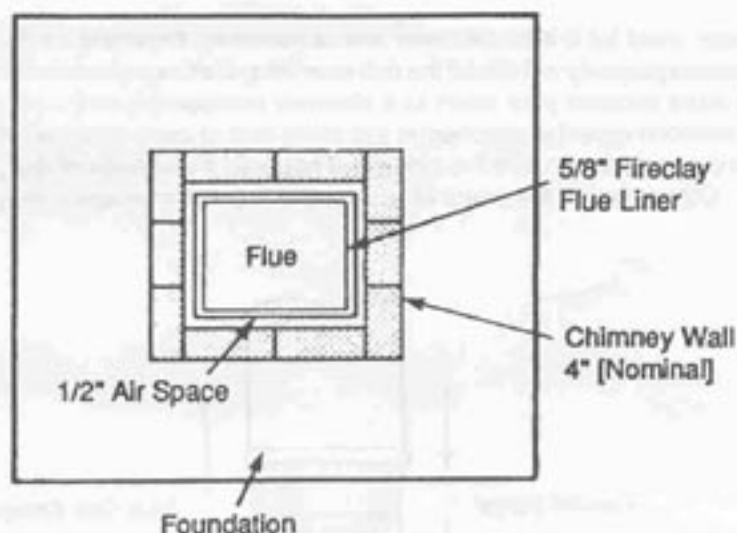

Figure 4
- The chimney must have a fire clay flue liner (or equivalent) with a minimum thickness of 5/8 inch and must be installed with refractory mortar. There must be at least 1/2 inch air space between the flue liner and the chimney wall (FIGURE 4). An equivalent liner must be a listed chimney liner system or other approved material.